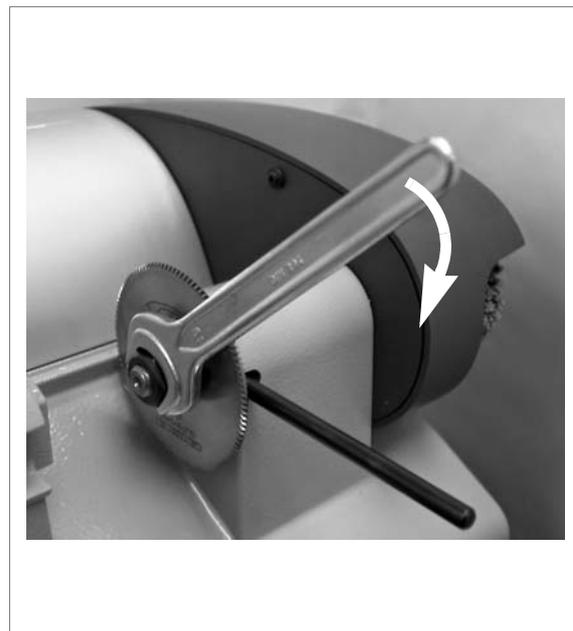

Fig. 21
- 3) Place the locking pin into the groove in the base and the special hole in the cutting tool shaft (fig.21).